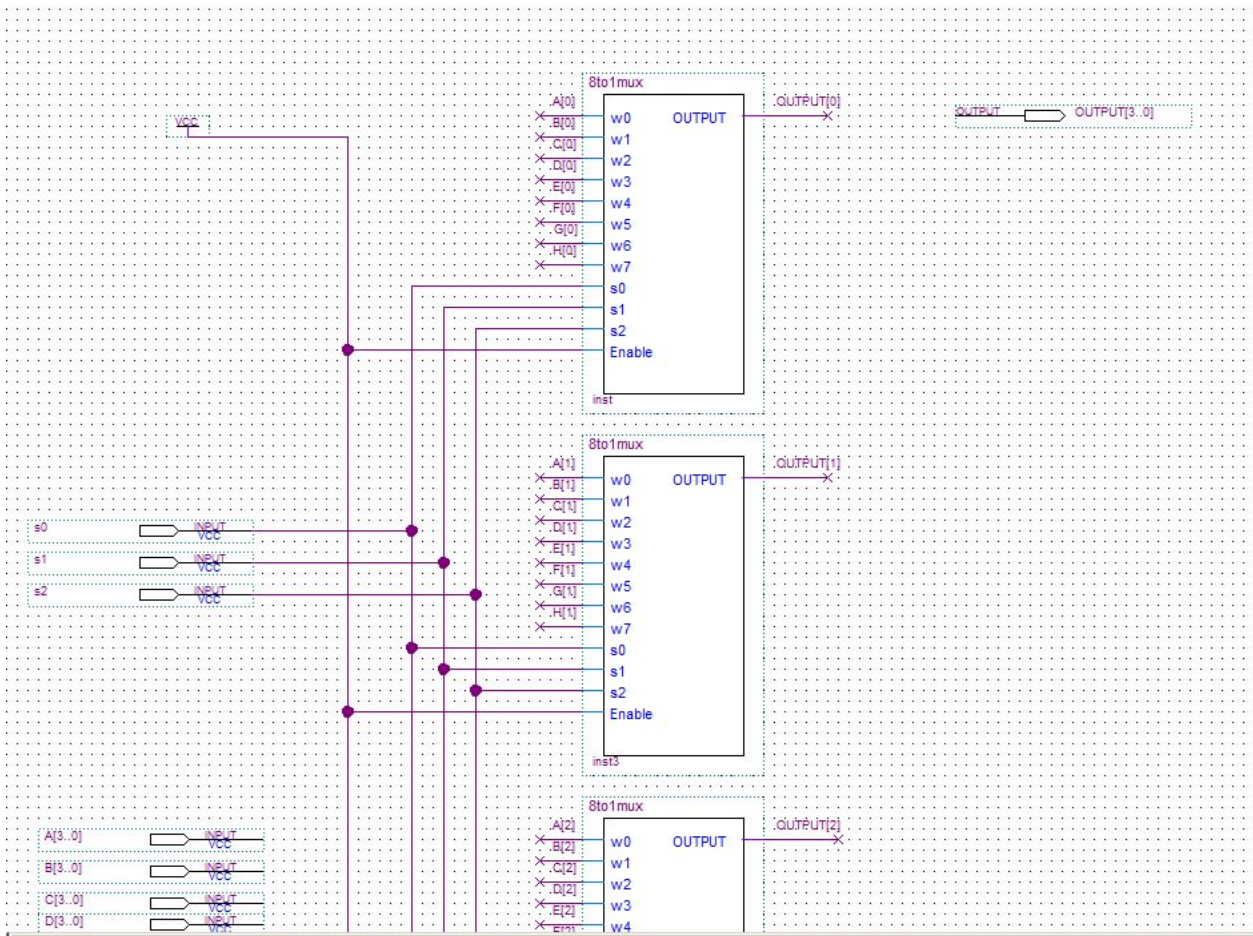

Figure 3. Detail of MUX4 (upper part)
- We built a symbol named MUX4 (as shown in Figure 3, 4, and 5) in which we included 4 8to1 mux. MUX4 will function as a mux in which the output will be a 4-bit output based on the switches.